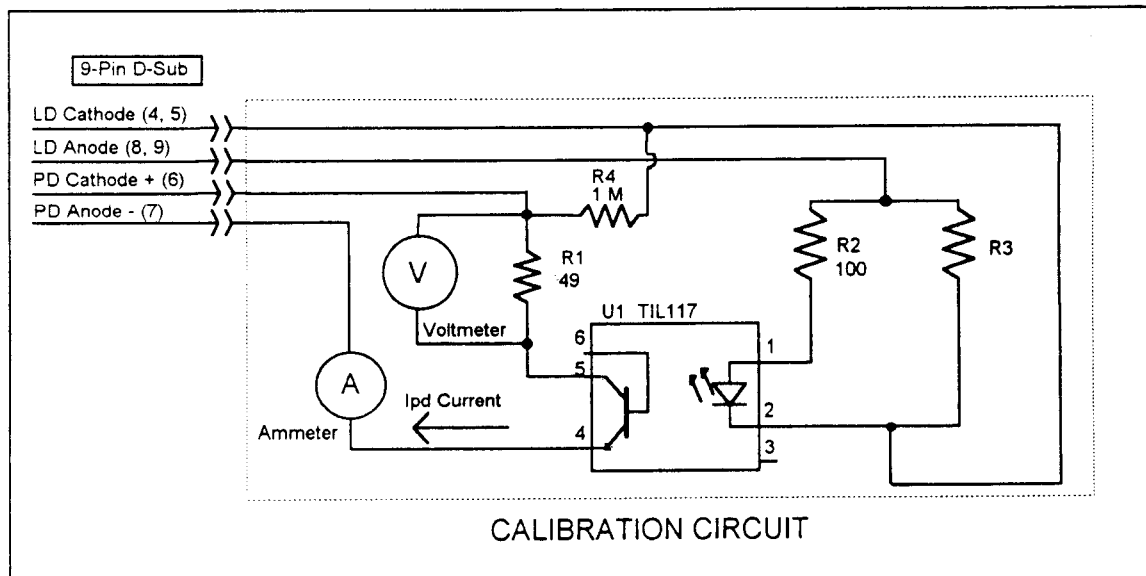

Figure 6.1 I_{PD} Calibration Circuit
- a. With the LASER output off, connect a calibrated ammeter to the PD Anode output of the LDC-3700 Series Laser Diode Controller, and connect the circuit of Figure 6.1 to the LASER and PD outputs ($R3 = 1 \Omega$, LDC-3742B; 11Ω , LDC-3722B; or 49Ω , LDC-3712).
If a calibrated ammeter (with 0.1 μA resolution) is not available, use a zero-Ohm jumper in place of the ammeter. Then, place a calibrated DMM (with 0.1 mV resolution) to measure the voltage across the resistor, R1, as shown in Figure 6.1. Calculate the current in the following steps by using Ohm's Law:
- a. With the LASER output off, connect a calibrated ammeter to the PD Anode output of the LDC-3700 Series Laser Diode Controller, and connect the circuit of Figure 6.1 to the LASER and PD outputs ($R_3 = 1 \Omega$, LDC-3742B; 11Ω , LDC-3722B; or 49Ω , LDC-3712).
If a calibrated ammeter (with 0.1 μA resolution) is not available, use a zero-Ohm jumper in place of the ammeter. Then, place a calibrated DMM (with 0.1 mV resolution) to measure the voltage across the resistor, R_1 , as shown in Figure 6.1. Calculate the current in the following steps by using Ohm's Law: